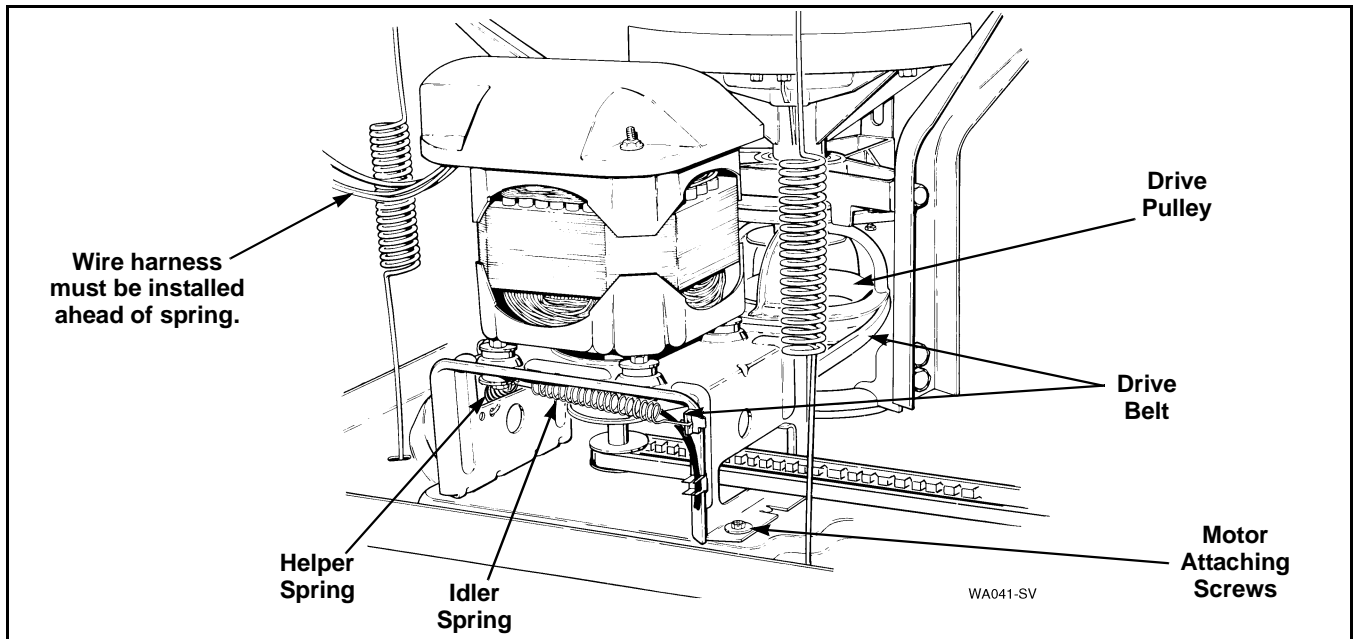

Figure 23
- f. While holding idler lever, reach in and around right side of motor and run belt off right side of large drive pulley. Refer to *Figure 23*.
**NOTE:** There is no belt adjustment after installing new drive belt. Check to be sure motor and mounting bracket have been shifted toward rear of washer to its limit of travel within the mounting bracket attaching screws. If the motor and mounting bracket must be repositioned, loosen the four motor attaching screws and shift motor and mounting bracket toward rear of washer to its limit of travel. Retighten the four attaching screws. Refer to *Figure 23*.
- c. Remove the two front mounting screws and loosen the rear screw. Refer to *Figure 23*.
- e. Loosen hose clamps and remove hoses from pump assembly. Refer to *Figure 23*.